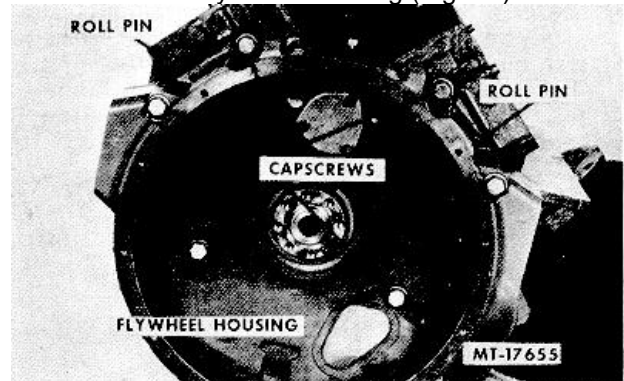

Fig. 37 Flywheel Housing Removal
39. Remove six capscrews and flat washers and remove the flywheel housing (Fig. 37).